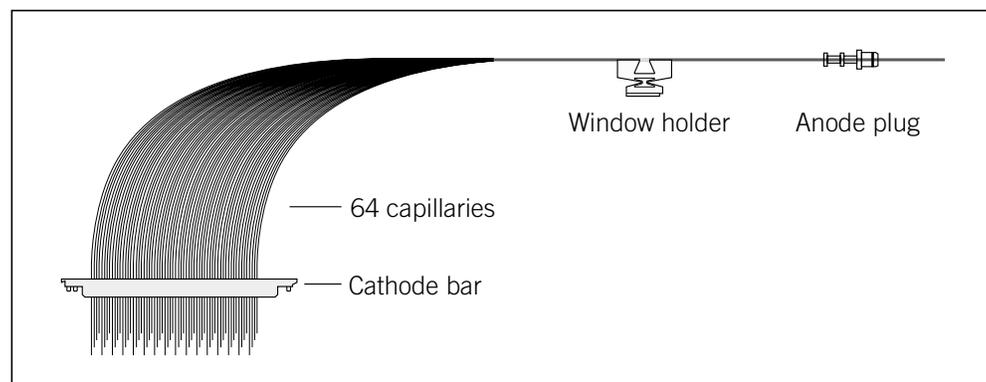

Figure 19-4. A capillary array.
The structure of a capillary array is shown in figure 19-4.
1. Remove a capillary array from the instrument (section 19.4) or from the box by grasping the cathode bar (figure 19-4).
3. Remove the capillary array from its box by grasping the cathode bar (figure 19-4). Hold onto the cathode bar and let the rest of the array hang down in a straight line.